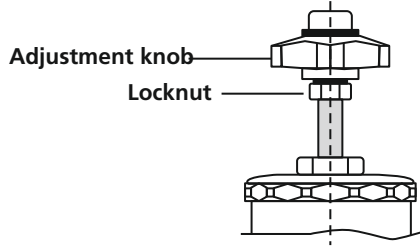

Figure10: Flow Regulator
5.2 Flow Regulator: (Ref. to Figure 10)